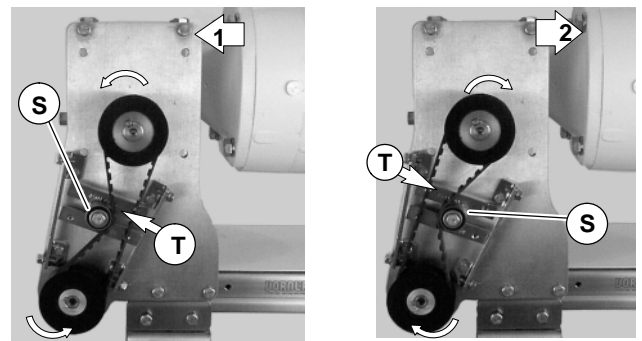

Figure 32
- Depending on conveyor belt travel (1 or 2 of Figure 32), locate timing belt tensioner (S), as shown. Tension timing belt to obtain 3 mm deflection for 4.3 N of force at timing belt mid-point (T). Tighten tensioner to 51 Nm.